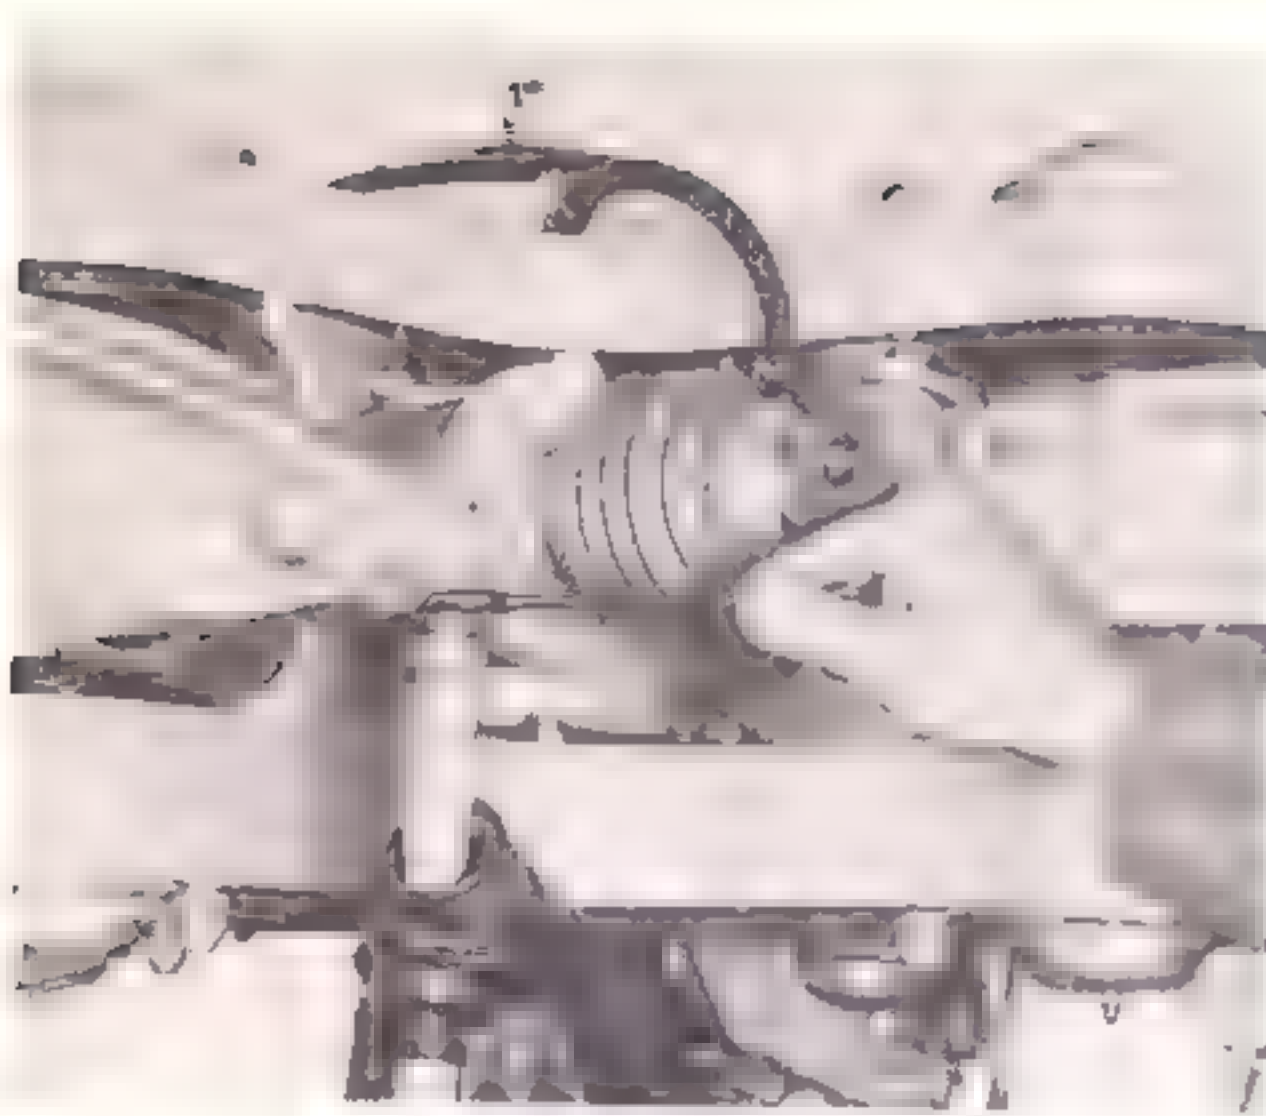

Figure 8-8. Adjusting main rotor blade pitch
(1) Slide boot down control rod assembly.
(2) Remove lock wire from jam nut below yoke.
(3) Loosen jam nut.
(4) Increase or reduce length of control rod assembly by turning hex area of rod end just below yoke. (See figure 8-8.)